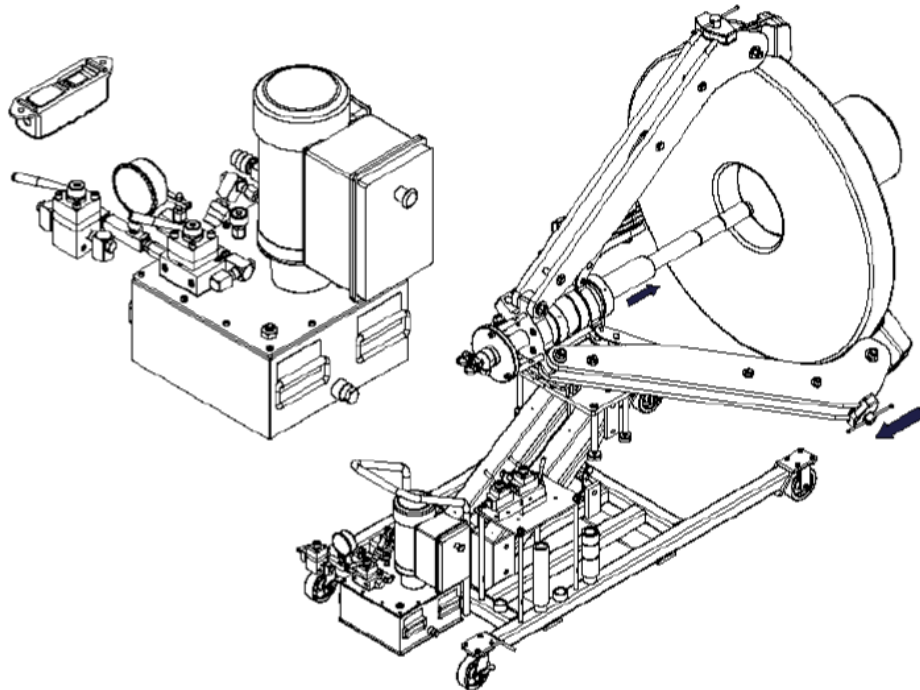

Figure 8 – Operating the Puller
- 5.3.1 Stand behind and to one side of the puller. Continue with pulling job by pressing the button on the remote switch (see Figure 8).